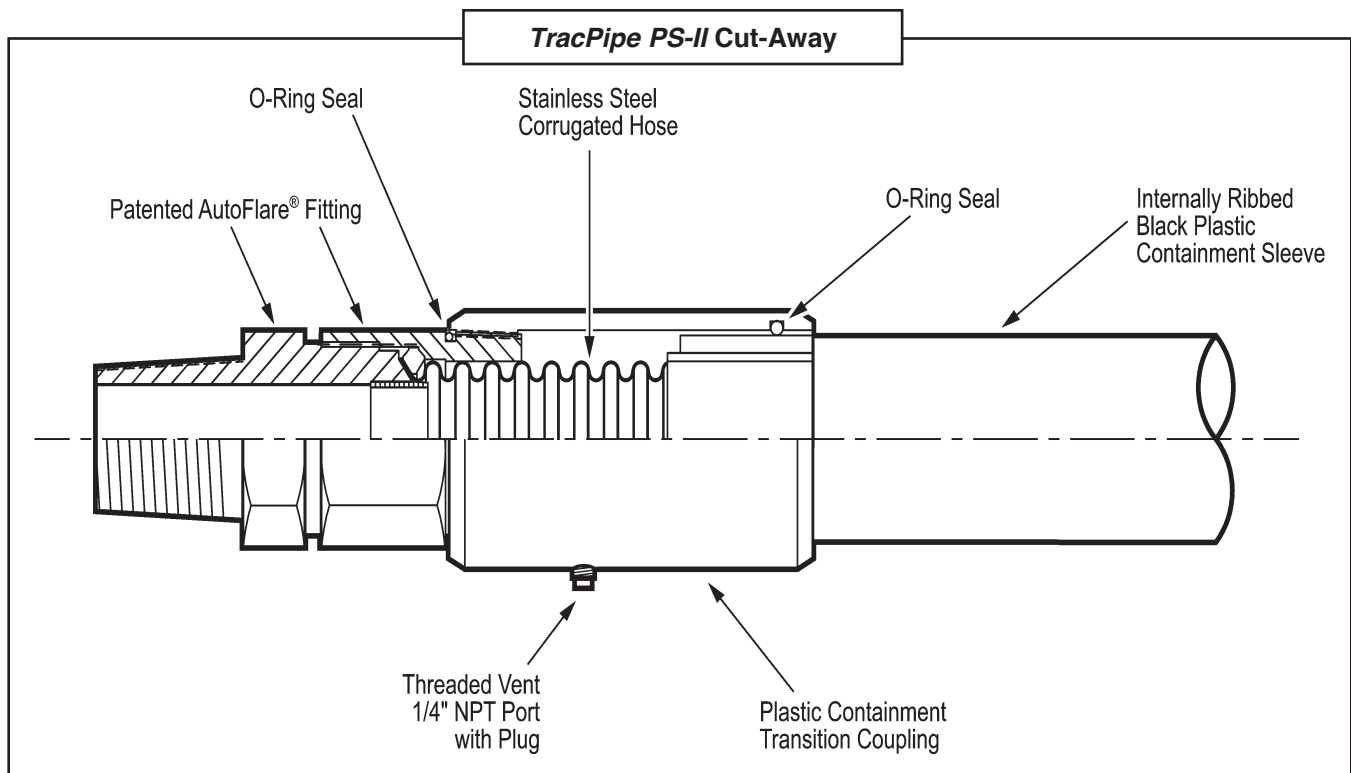

Figure: 4-50
1. **TracPipe PS-II** piping is a patented system suitable for above-ground and underground use. It is designed with our standard CSST tubing and incorporates an internally ribbed sleeve (duct), and specially designed end fittings that provide vent capability at either end of a piping run in the event of a leak in the CSST. **Figure 4-50**